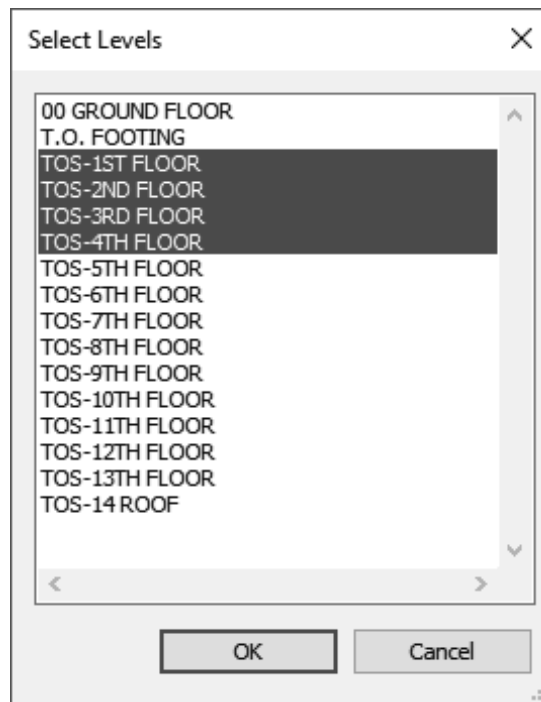

Figure 7–14
4. In the Select Levels dialog box (shown in Figure 7–14), select the levels to which you want to copy the elements.